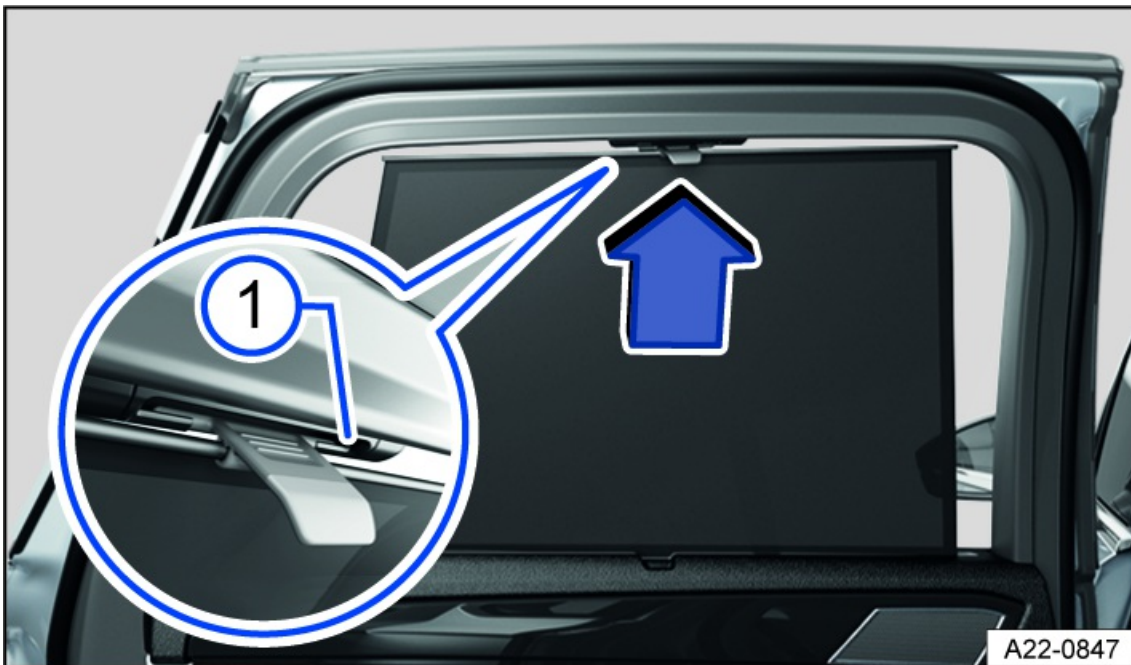

Fig. 89 In the right window: sunshade (general example).
1. Pull the sunshade all the way upward by the handle in the direction of the arrow *fig. 89*.
2. Secure the rod with both eyelets in its holder *fig. 89*.